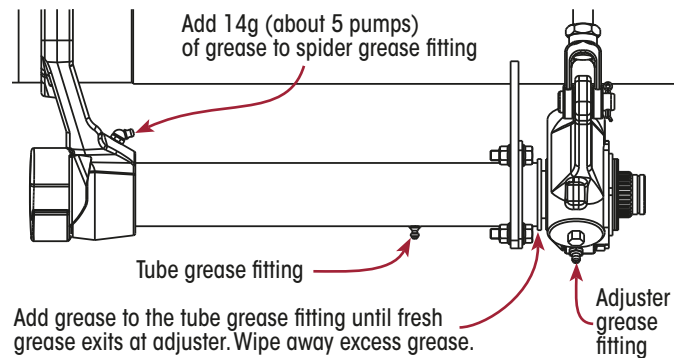

Figure 84: TRLAXLE Cam Tube Lubrication
8. Lubricate the single, centrally located grease fitting on the cam tube. Add grease to cam tube until fresh grease can be seen purging from the end of cam tube at points shown in Figure 84.
9. Apply approximately 14 g (0.5 oz.) of grease to the fitting at the spider. Refer to Figure 84. This equates to around five pumps from a regular hand-held grease gun.